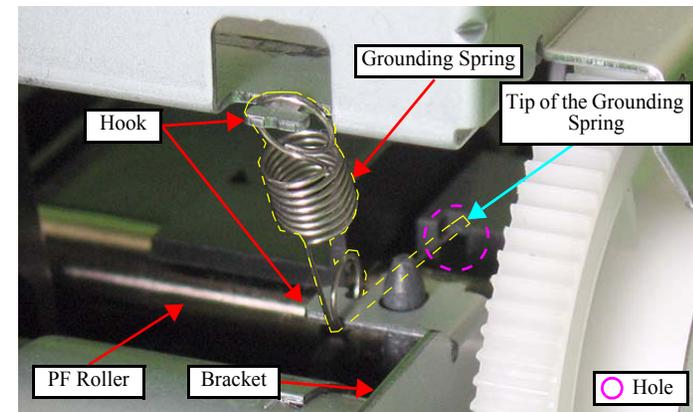

Figure 4-69. Removing the PF Motor (2)
- Install the Grounding Spring as follows: (See Fig.4-69.)